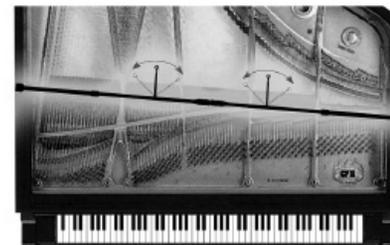

Figure 11. Adjustable flex arms for the Microphones
9. With the PianoMic™ in place, you can move the flex arms attached to the microphone heads several inches to the left or to the right to achieve your desired placement (See Figure 11).